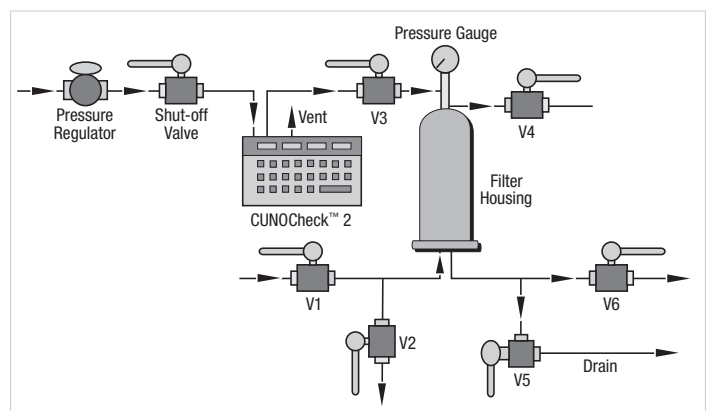

Figure 6. PHT (automated method).
The CUNOCheck™ 2 Automated Integrity Tester can be used to perform a PHT. When using the CUNOCheck 2, follow the installation instructions for connecting the unit to the upstream valve as shown in Figure 6. Consult the appropriate 3M Purification Inc. literature for the test pressure and PHT value for the filter cartridge to be used or calculate the maximum allowable value using the following equation. Program these values into the CUNOCheck 2 Automated Integrity Tester when requested during the test set-up.
3. Procedure (Automated Test — Figure 6)
- A. Configure the system as shown in Figure 6.